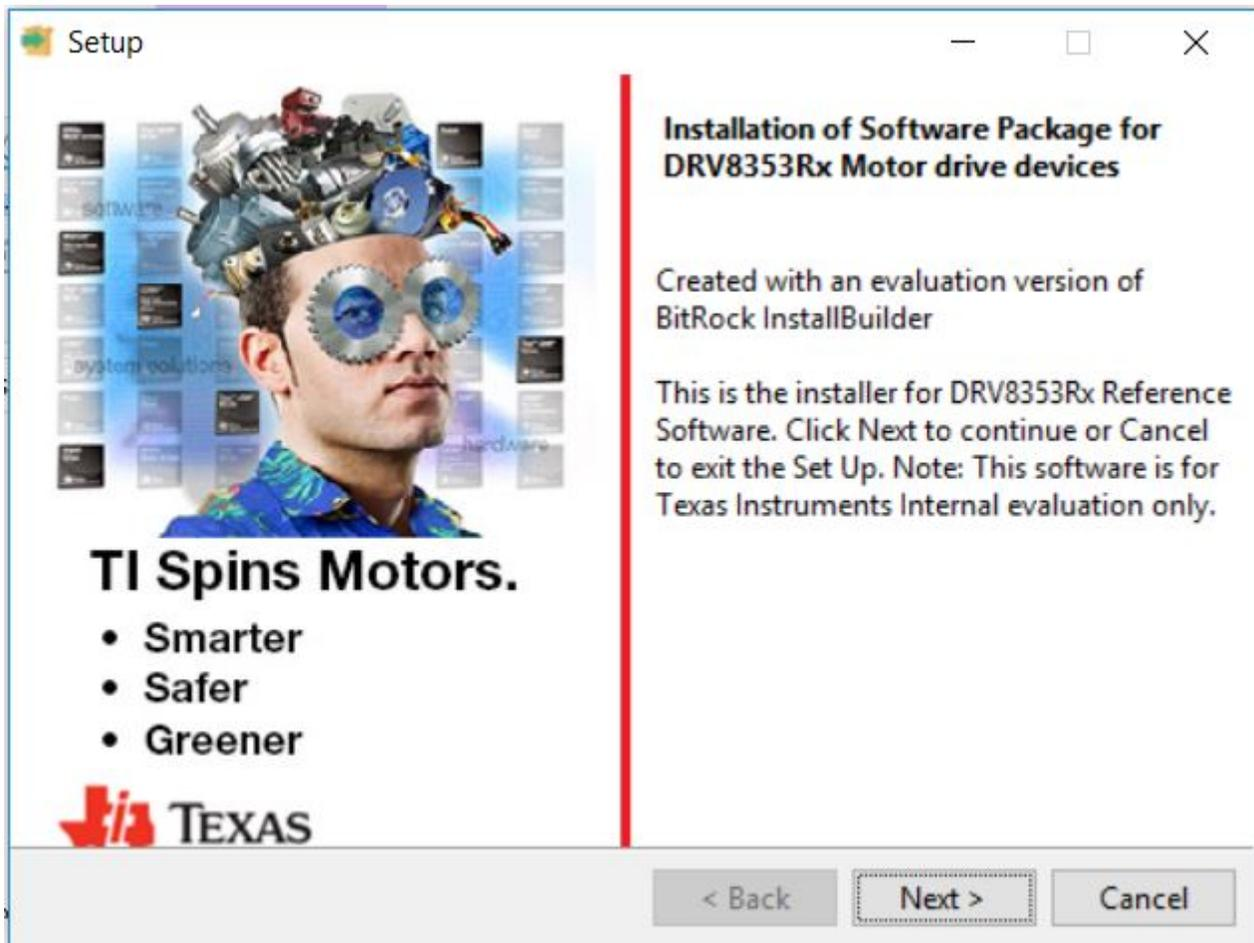

Figure 6. Setup
- Step 2. Click Next button to setup DRV8353Rx Software package (see Figure 6).